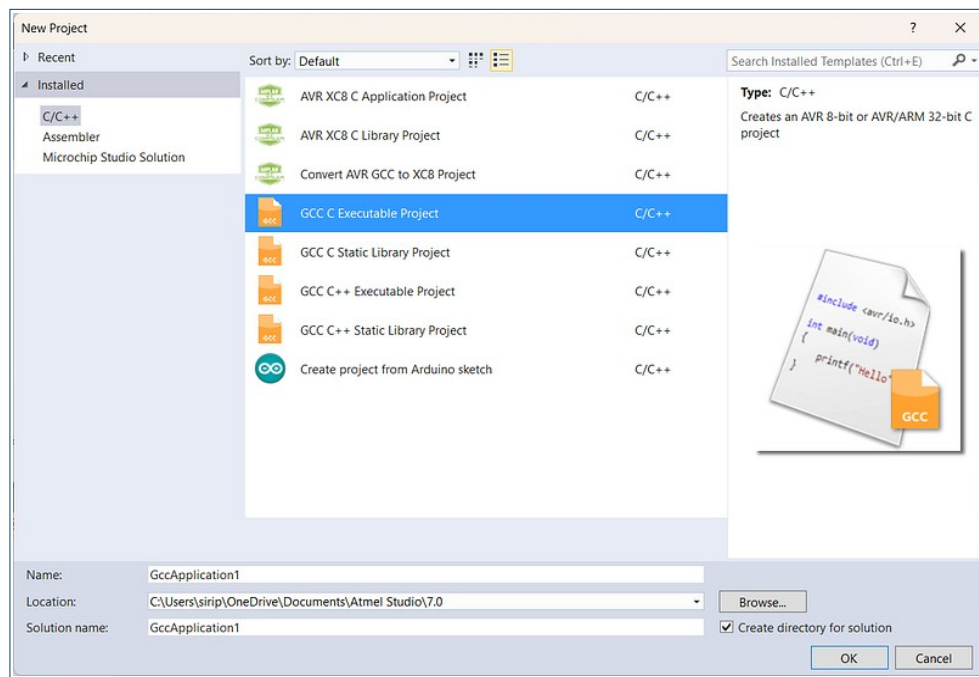

Figure 2: Project type selection in Microchip Studio for AVR
- 1.1 Select **GCC C Executable Project** (see **Figure 2**), enter a project name, and choose a directory for the project.